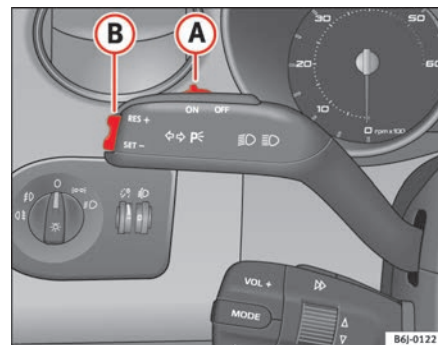

Fig. 104 Indicator and main beam headlight lever: switch and rocker switch for the cruise control
- Press the lower part **SET** of the rocker switch ⇒ fig. 104 **B** once briefly when you have reached the speed you wish to set.